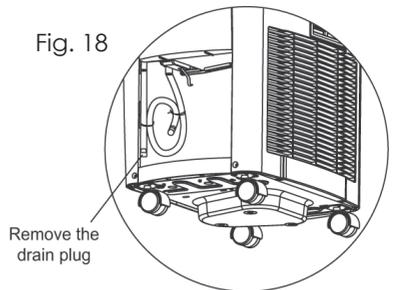

Fig. 18
- Release the band and remove the plug from the end of the hose, all the water in the bottom tray would drain outside through the drain hose (See Fig. 18).